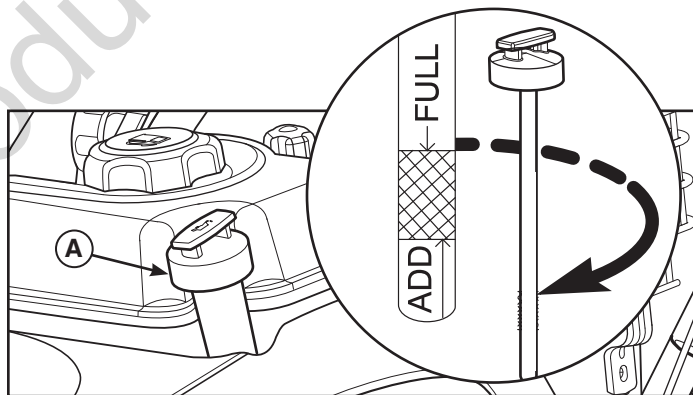

Figure 3
2. Remove the oil fill cap/dipstick (A, Figure 3) and wipe with a clean cloth.